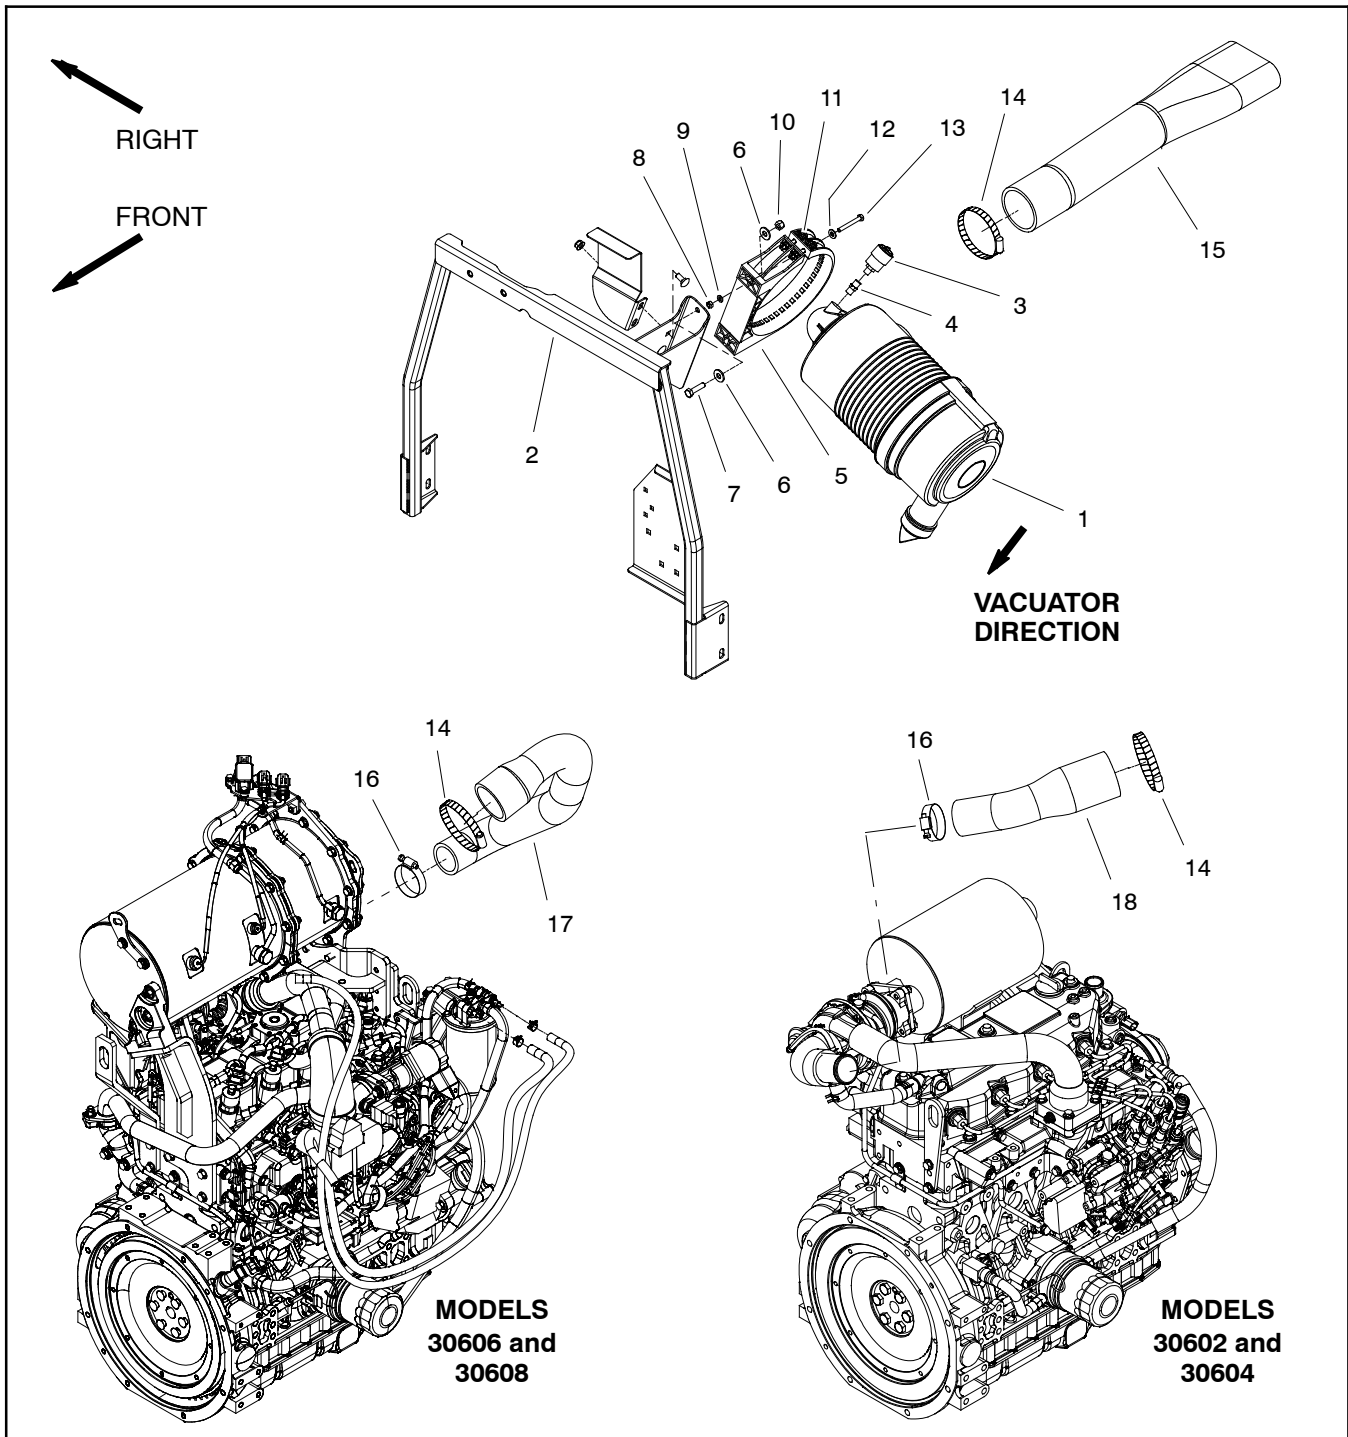
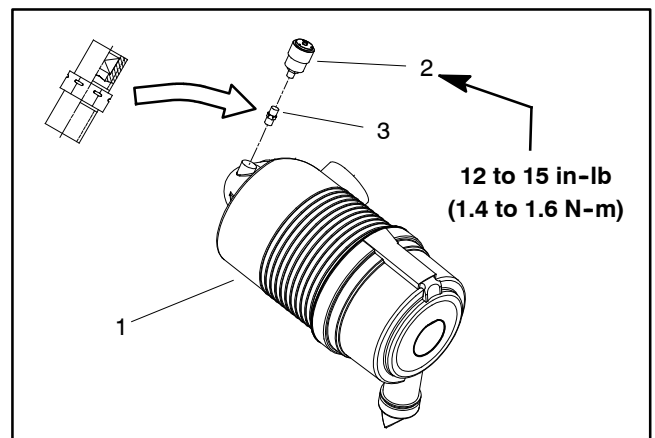

Figure 6
Figure 8
Removal (Fig. 6)
3. Remove air cleaner components as needed using Figure 6 as a guide.
Installation (Fig. 6)
1. Assemble air cleaner system using Figure 6 as a guide.
A. If service indicator (item 4 in Fig. 6) and adapter (item 15 in Fig. 6) were removed from air cleaner housing, apply thread sealant to adapter threads before installing adapter and indicator to housing. Install adapter so that grooves in adapter hex and adapter filter element are installed toward service indicator (shown in Fig. 8). Torque indicator from **12 to 15 in-lb (1.4 to 1.6 N-m)**.
C. When securing air cleaner in air cleaner strap, tighten cap screws (item 14) only enough to prevent air cleaner from rotating in strap.